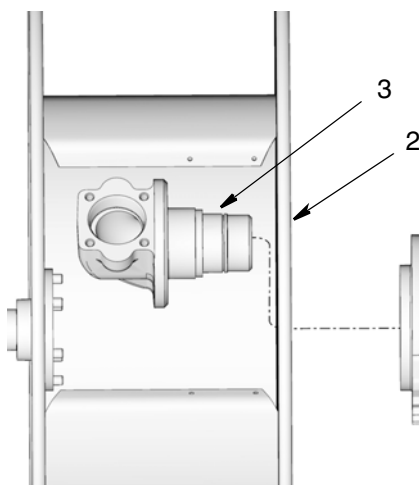

FIG. 25
**22. Remove Swivel (3) from spool.**
- d. Remove swivel (3) from inside of spool (2) (FIG. 25).